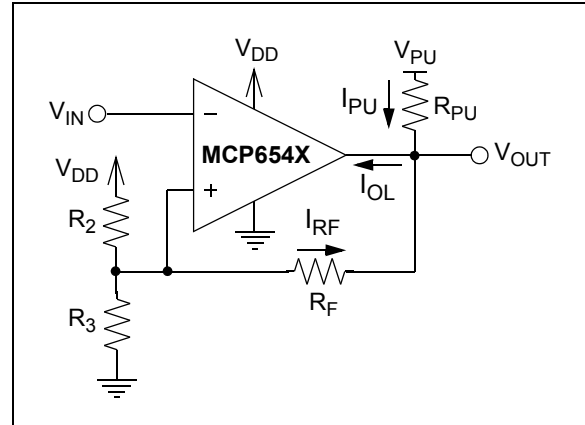
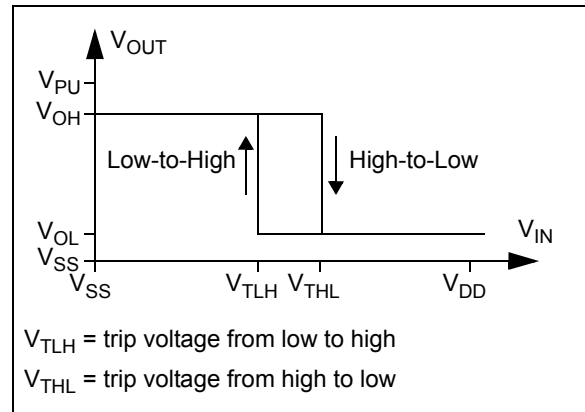
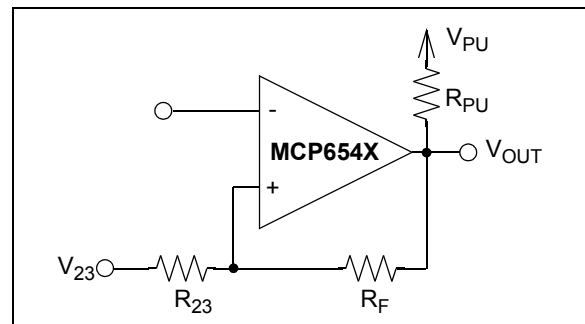

FIGURE 4-4: Inverting Circuit with Hysteresis.
FIGURE 4-5: Hysteresis diagram for the inverting circuit.
FIGURE 4-6: Thevenin Equivalent Circuit.
Figure 4-4 shows an inverting circuit for a single-supply application using three resistors, besides the pull-up resistor. The resulting hysteresis diagram is shown in Figure 4-5.
In order to determine the trip voltages (V_{THL} and V_{TLH}) for the circuit shown in Figure 4-4, R_2 and R_3 can be simplified to the Thevenin equivalent circuit with respect to V_{DD} , as shown in Figure 4-6.
Figure 2-21 and Figure 2-24 can be used to determine typical values for V_{OL} . This voltage is dependent on the output current I_{OL} as shown in Figure 4-4. This current can be determined using the equation below:
1. Inverting Configuration (Figures 4-4 and 4-7):